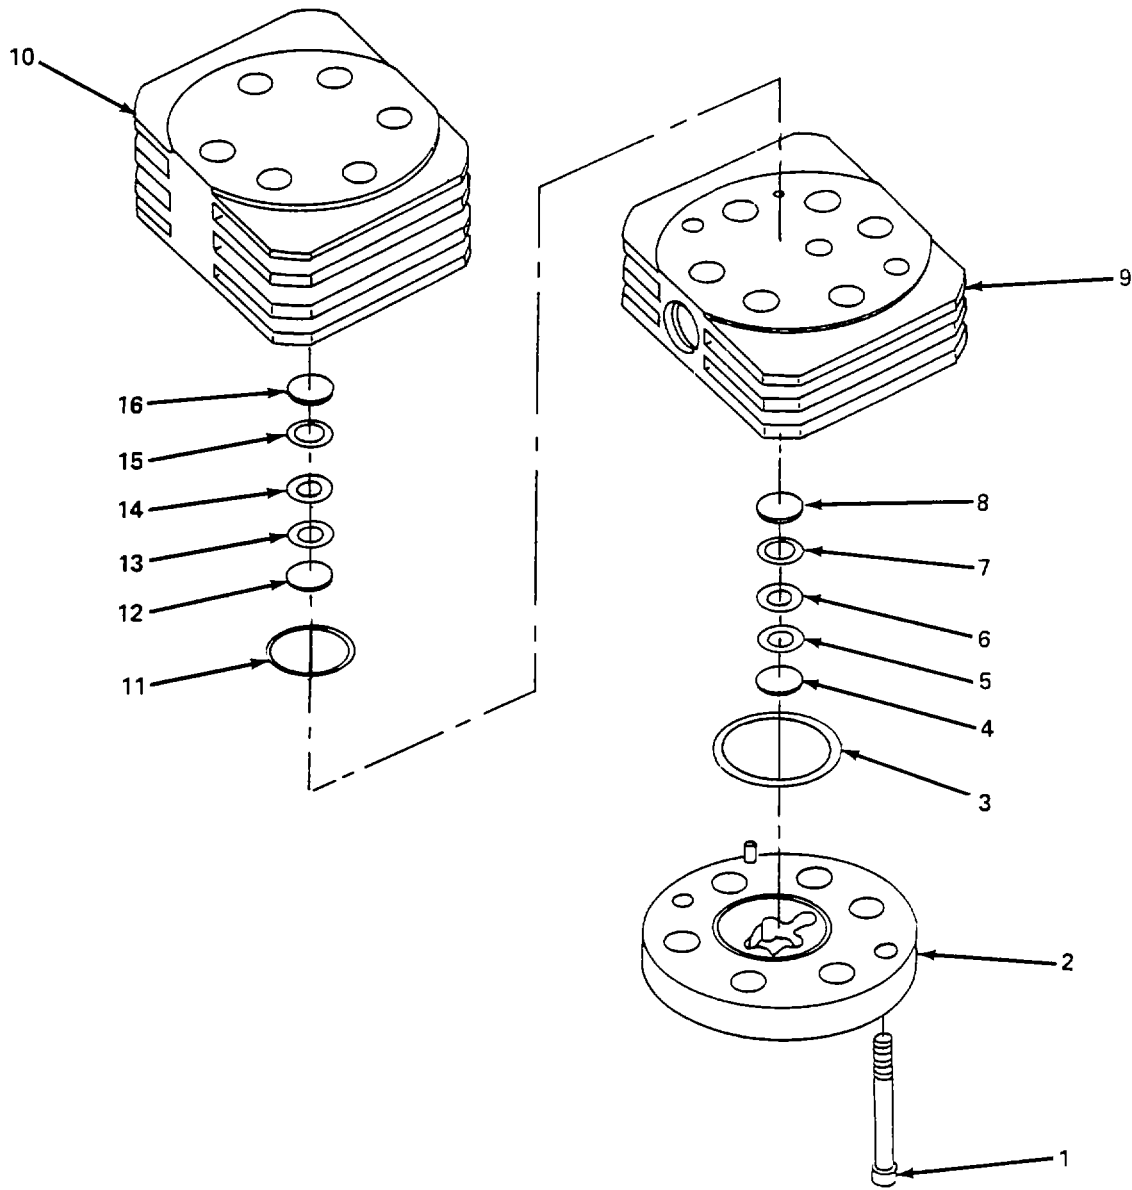

Figure 5-35. Third Stage Valve Head Assembly, Repair.
- (5) Apply teflon tape to pipe threads on fittings (9) and (10) and install fittings (9) and (10).
- (6) Ensure all sealing surfaces are clean.
- (7) Install cooling ring (7) and new preformed packing (8).
- (8) Install valve assembly (6) and secure with six nuts (4) and washers (5).
- (9) Tighten connector nut (3).
- (10) Tighten connector nuts (1).
b. Repair. (figure 5-35)**WARNING**
- (1) Remove two screws (1), bottom plate (2), preformed packing (3), valve plate (4), valve spring ring (5), center plate (6), valve spring ring (7), and valve plate (8). Discard preformed packing (3).
- (2) Separate lower valve head (9) from upper valve head (10) and remove preformed packing (11), valve plate (12), valve spring ring (13), center plate (14), valve spring ring (15), and valve plate (16). Discard preformed packing (11).
- (3) Clean all components in TSP ultrasonic cleaner and dry thoroughly.
- (4) Inspect bottom plate (2), lower valve head (9) and upper valve head (10) and replace if any component is cracked or otherwise damaged.